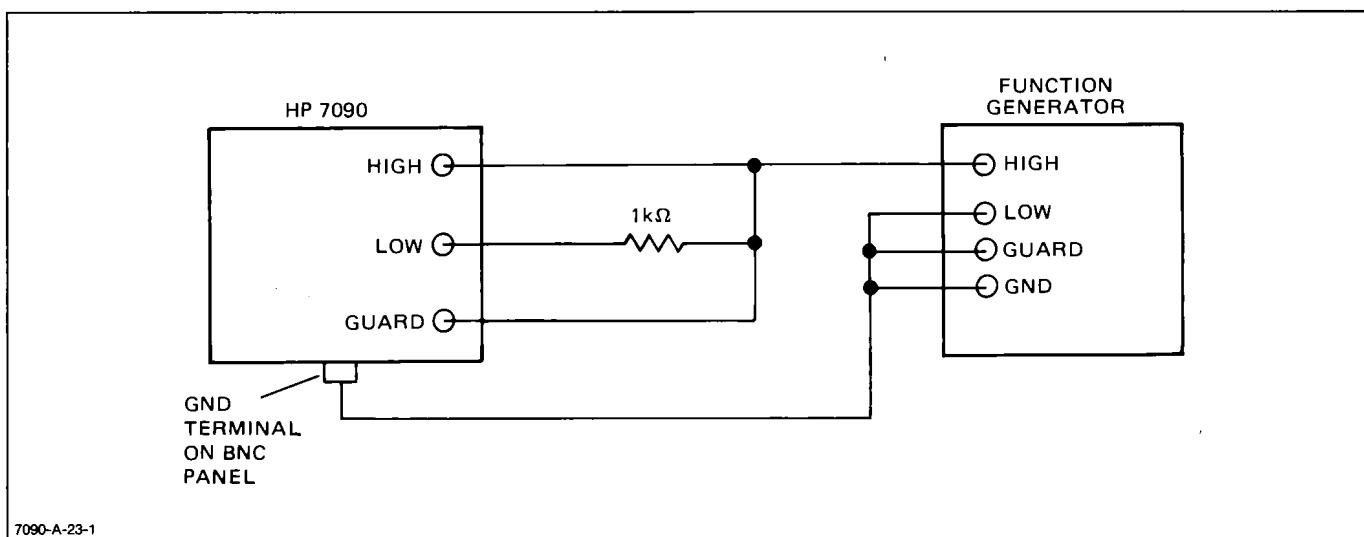

Figure 4-5. AC Common Mode Rejection
- d. Connect a function generator to the HP 7090 as illustrated in Figure 4-5.